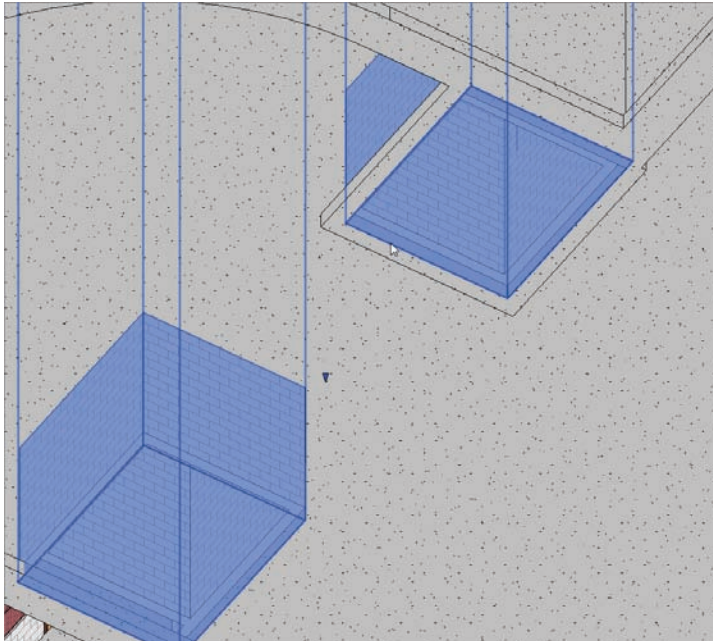

FIGURE 8.63 Select the elevator shafts to remove the base offset in the Properties dialog box.
6. If your slabs look more like a strip footing, as shown in Figure 8.63, hover your cursor over the inside of one of the foundations until you see that you have the elevator shafts highlighted.